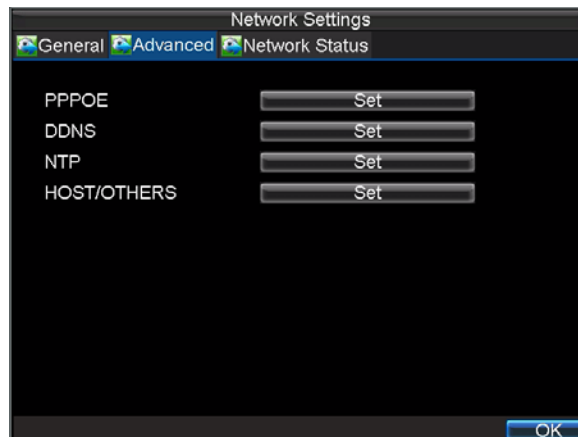

Figure4. Advanced Network Settings
3. Select the **Advanced** tab to enter the Advanced Network Settings menu, shown in Figure 4.